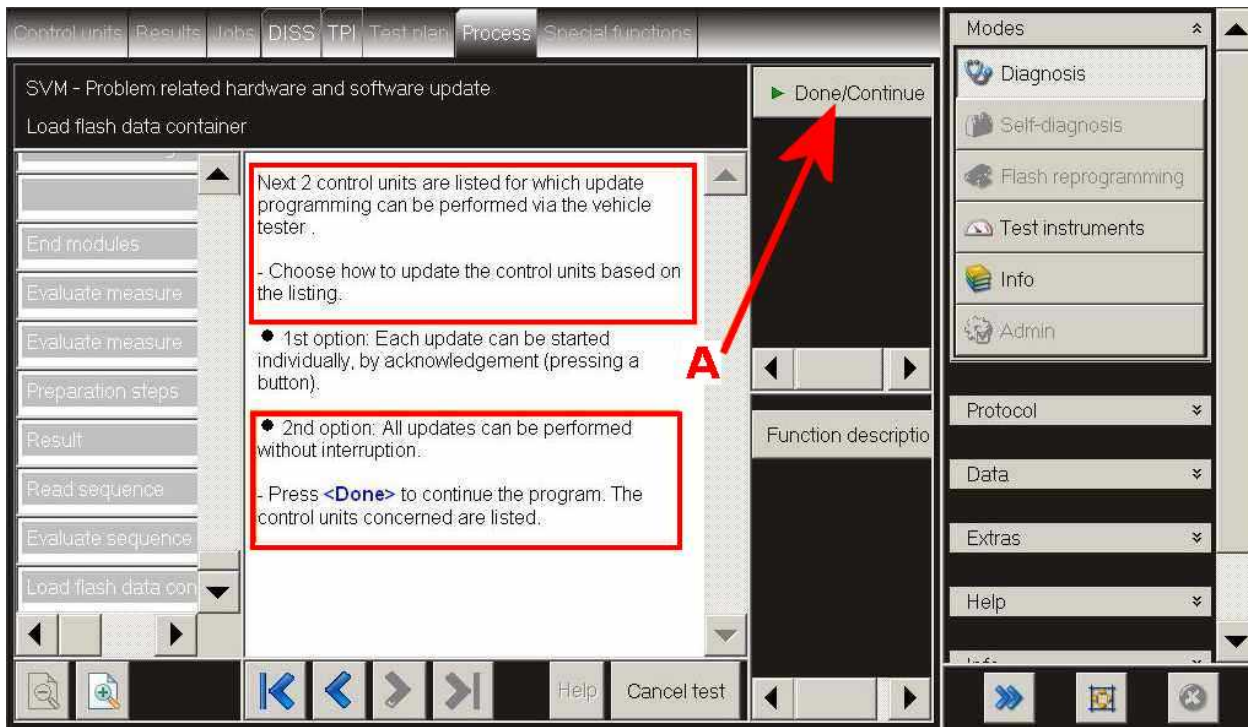

Figure 6
8. Please read all text within the highlighted boxes shown in Figure 6, as during the next steps you will be asked to select how the updates should be performed, It is recommended to perform all updates without interruption (2nd option)